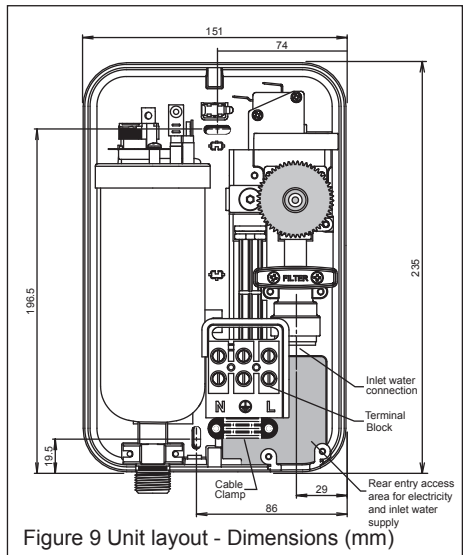
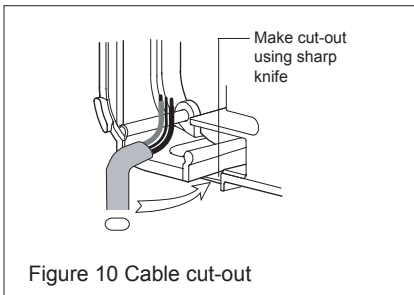

Figure 9 Unit layout - Dimensions (mm)
Figure 10 Cable cut-out
- 5.6 Cable entry can be from the rear (preferred see fig. 9) or from the bottom. The backplate has cut out positions to suit 2 sizes of cable. When opting for bottom entry make cut out to suit cable before fitting backplate to the wall - see Fig. 10.
- 5.7 Plumbing entry can be from the rear (preferred) see Fig. 9 or from the bottom. The backplate has a cut out position to suit 15mm pipe.